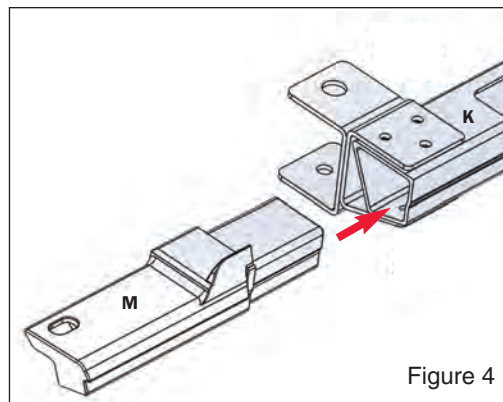

Figure 4
Insert the Left Hand Front Plastic (M) fully into the Left Hand Front Door Bar (K) as shown. (See FIG 4) Insert the Right Hand Front Plastic (N) into Left Hand Front Door Bar (L). (See FIG 4)